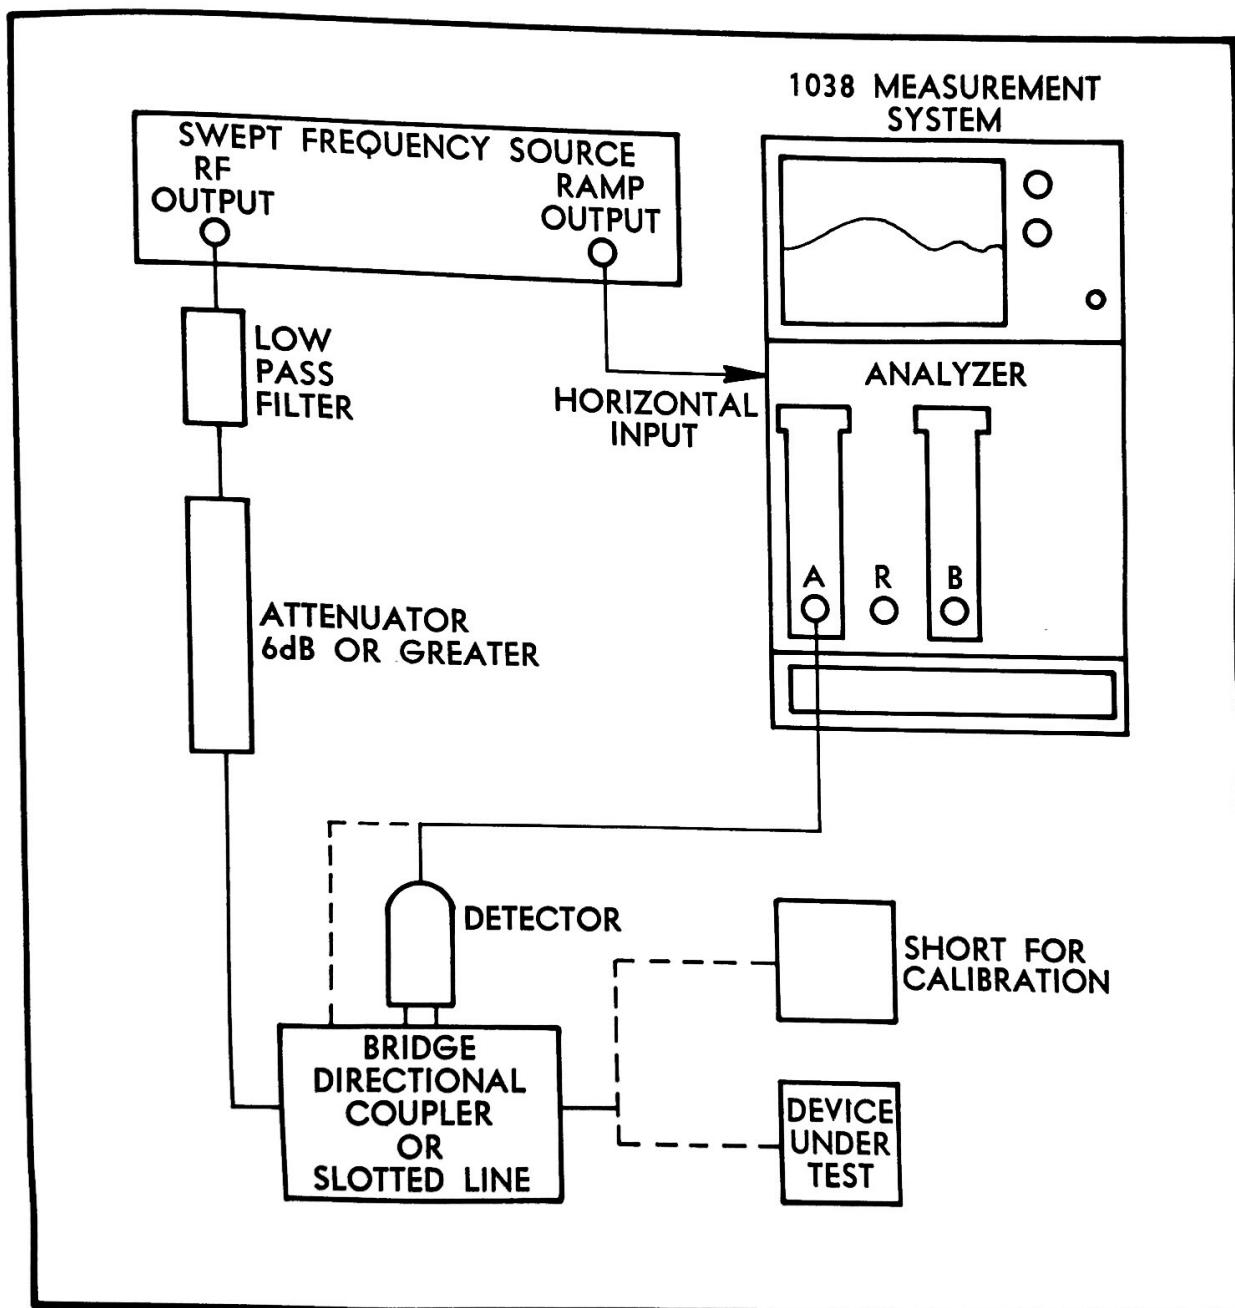

Figure 3. Return loss measurement test system using an attenuator to guarantee a good source match.
11.1 Return Loss Procedure (See Fig. 3 for typical test setup)
11.1.6 Connect DUT as shown in Fig. 3.